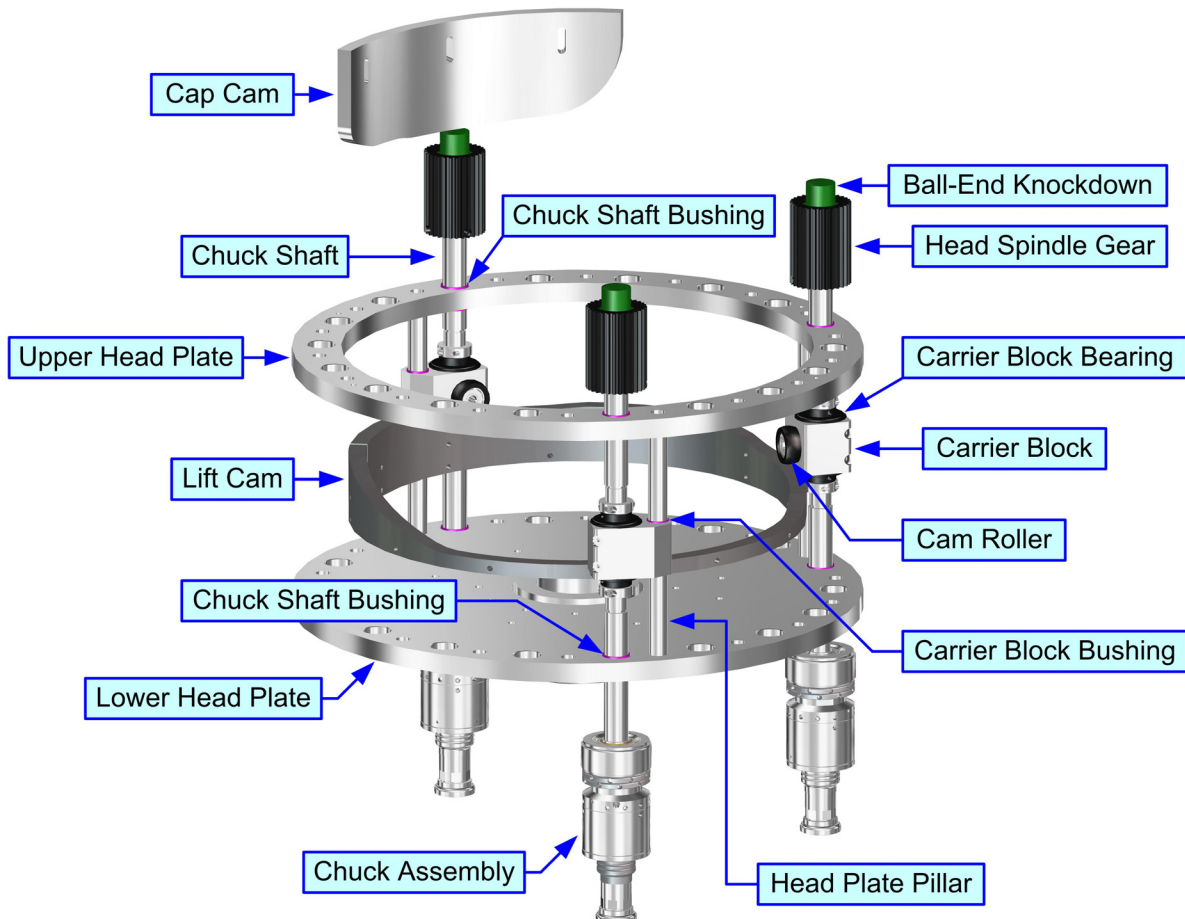

Figure 6-3, Capper Shafts & Rollers
2. Loosen four set nuts/bolts (1, Figure 6-3) securing motor/gearbox (2) to mounting plate (3).
3. Manually move motor/gearbox (3) inward to relieve tension on worn drive belt (4) between pulleys (A) and (B).
4. Remove two bolts (5) securing bearing assembly (6) to spacers (7). Lift away assembly (6).
5. Withdraw worn drive belt (4) from pulleys (A) and (B) and install replacement belt (4) in its place.
6. Apply bearing assembly (6) onto spindle (9) and secure to spacers (8) using two bolts (5).
7. Manually maneuver motor/gearbox (2) outward to provide tension on replacement belt (4) between pulleys (B) and (A).